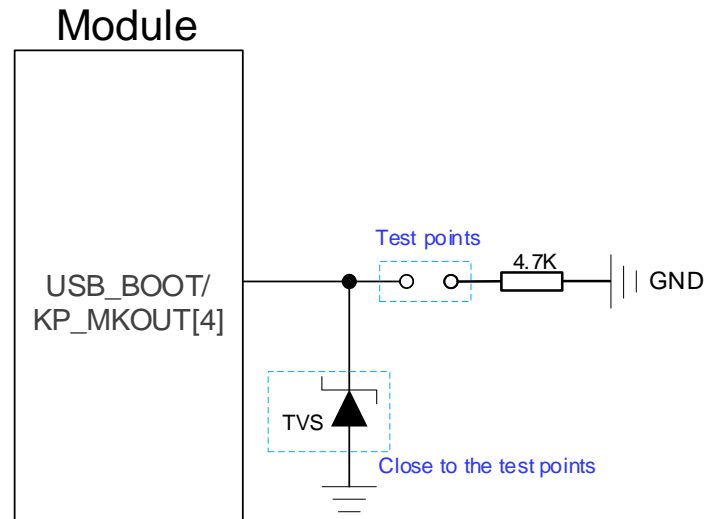

Figure 15: Reference Design of USB_BOOT
2. Follow the above timing sequence when using MCU to control module to enter the emergency download mode. Directly connect the test points as shown in **Figure 15** can manually force the module to enter emergency download mode.